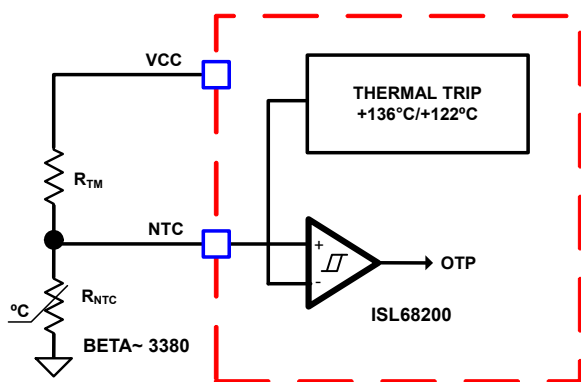
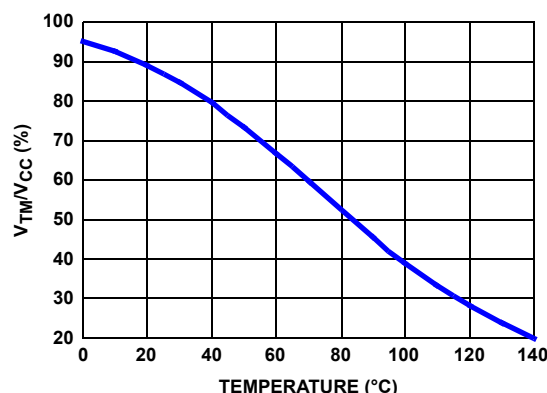

FIGURE 16. BLOCK DIAGRAM OF THERMAL MONITORING AND PROTECTION
FIGURE 18. THE RATIO OF TM VOLTAGE TO NTC TEMPERATURE WITH RECOMMENDED PART
The block diagram of thermal monitoring function is shown in Figure 16 on page 18. One NTC resistor should be placed close to the respective power stage of the voltage regulator VR to sense the operational temperature and pull-up resistors are needed to form the voltage dividers for the NTC pin. As the temperature of the power stage increases, the resistance of the NTC will reduce, resulting in the reduced voltage at the NTC pin. Figure 18 on page 18 shows the TM voltage over the temperature for a typical design with a recommended 10k Ω NTC (P/N: NCP15XH103J03RC from Murata, $\beta = 3380$) and 1.54k Ω resistor R_{TM} . It is recommended to use those resistors for the accurate temperature compensation since the internal thermal digital code is developed based upon these two components. If a different value is used, the temperature coefficient must be close to 3380 and R_{TM} must be scaled accordingly. For instance, say NTC = 20k Ω ($\beta = 3380$), then R_{TM} should be $20\text{k}\Omega / 10\text{k}\Omega \cdot 1.54\text{k}\Omega = 3.08\text{k}\Omega$.
to the NTC temperature of the practical design should be similar to that in Figure 18.
1. Properly choose the voltage divider for the NTC pin to match the NTC voltage vs temperature curve with the recommended curve in Figure 18 on page 18.
As shown in Figure 16, there is a comparator with hysteresis to compare the NTC pin voltage to the threshold set. When the NTC pin voltage is lower than 22.31% of VCC voltage (typically +136 °C), it triggers Over-Temperature Protection (OTP) and shuts down ISL68200 operation, when the NTC pin voltage is above 27.79% of VCC voltage (typically +122.4 °C), it will resume normal operation. When an OTP fault is declared, the controller will force the LGATE and UGATE gate-driver outputs low.